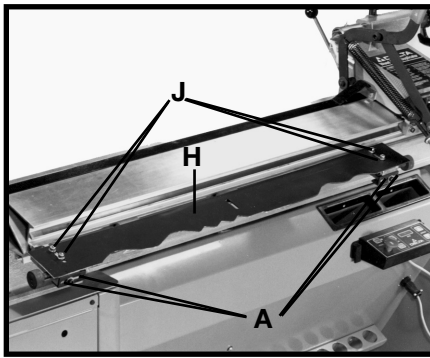

Fig. 76
4. To use a template as a pattern, place the template (H) Fig. 76 on top of the pattern holding brackets (A) and fasten with four M65 x 16mm hex socket head screws (J) (not supplied). Refer to section **"DUPLICATING FROM A TEMPLATE"**.
2. When setting up the duplicator for operation, point the lever (E) Fig. 76 to the right. After the first test cut, check the diameter of the workpiece. To adjust the diameter of the test cut, loosen wing screw (D) and rotate lever (E) slightly clockwise to decrease or forward to increase the workpiece diameter.